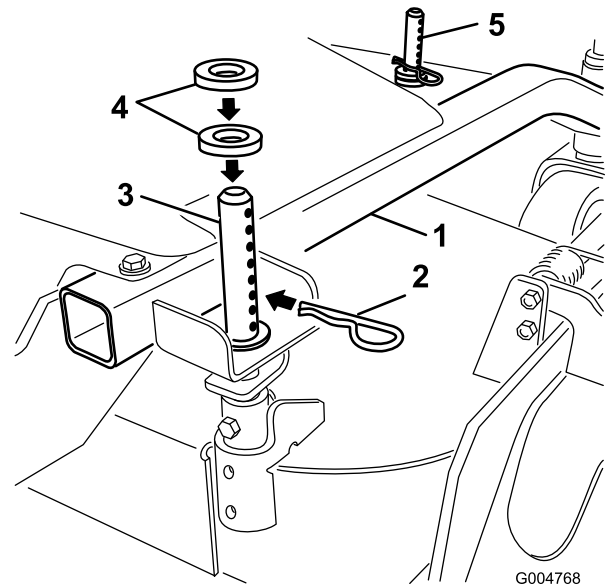

Figure 12
1. Select hole in height-of-cut post and number of spacers corresponding to the height-of-cut desired (Figure 12).
2. Using the lift handle, raise side of deck and remove hairpin cotter (Figure 12).
3. Add or remove spacers if needed and then align the holes and insert the hairpin cotter (Figure 12).